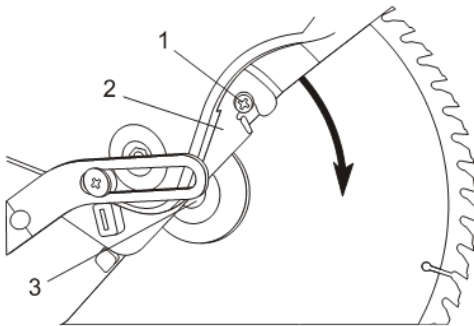

Fig. 32
1. Lift the cutting head up to its maximum height (Fig. 32).
2. Use a #2 \oplus (not included) screwdriver and loosen the screw (1) in the secondary blade guard (2).
3. Slide the secondary blade guard upward to expose the blade screw (3).
6. Pull the secondary blade guard (2) down so the slot fits behind the head of the screw (1) (Fig. 32).